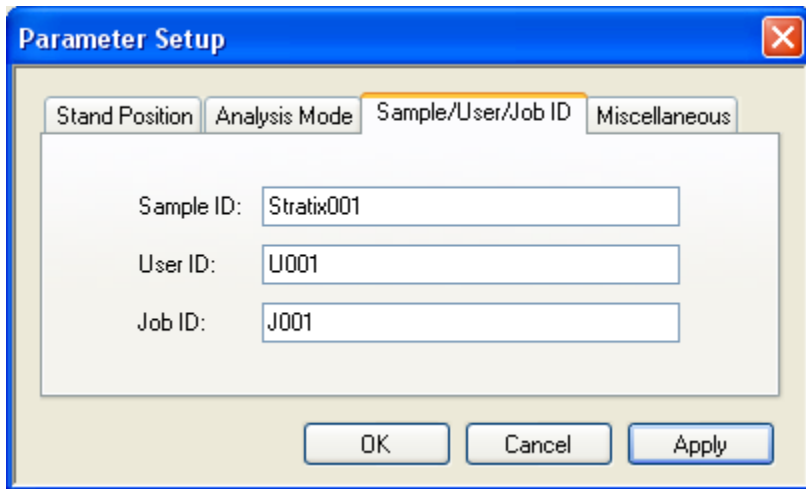

Figure 3-3
1. Select tab **Sample/User/Job ID** (Figure 3-3)